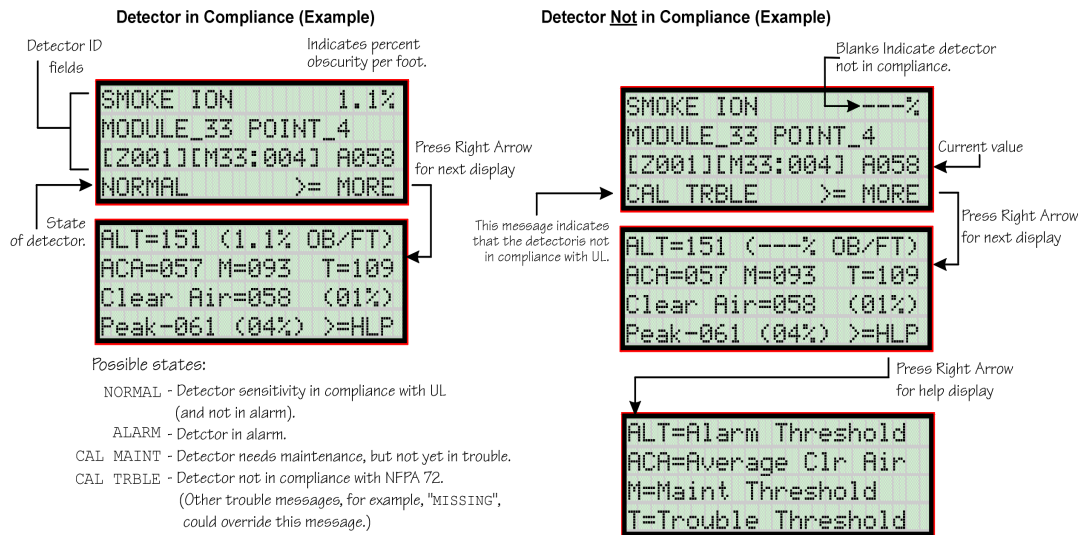

Figure 8-4 Checking Detector Sensitivity Compliance
- A screen similar to those shown in Figure 8-4 will display.